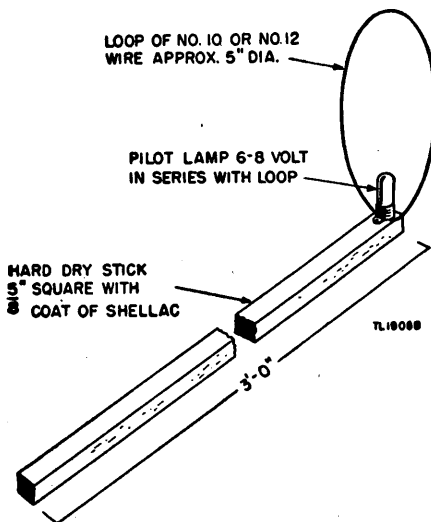

Figure 79. Neutralization indicator, method of construction.
a. The indicating device used is a loop of wire with a flashlight bulb in series with it. This assembly is fastened to a stick as shown in figure 79. Also required is a door interlock clamp. Such a clamp is made of a block of wood U-shaped notch cut out of it. This notch should be made of such a size that when the clamp is slipped over the interlock switch it will hold the switch plunger in.